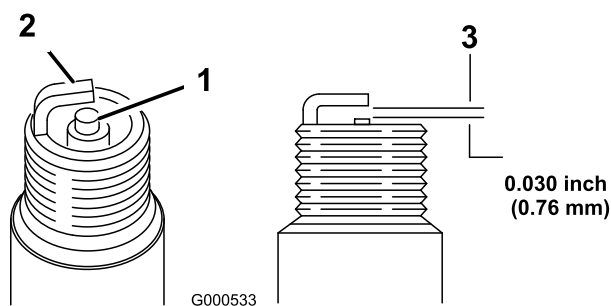

Figure 27
1. Look at the center of the spark plug (Figure 27). If you see light brown or gray on the insulator, the engine is operating properly. A black coating on the insulator usually means the air cleaner is dirty.
2. Check the gap between the center and side electrodes (Figure 27). Bend the side electrode (Figure 27) if the gap is not correct.